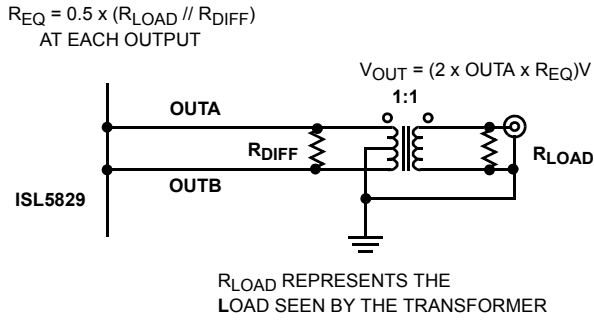
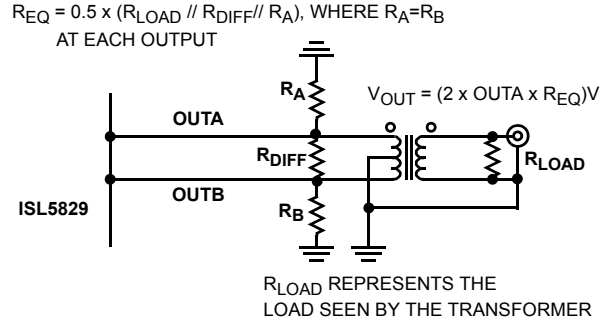

FIGURE 13. OUTPUT LOADING FOR DATASHEET MEASUREMENTS
FIGURE 14. ALTERNATIVE OUTPUT LOADING
**Typical Performance** (+3.3V Supply, Using Figure 13 with  $R_{DIFF} = 100\Omega$  and  $R_{LOAD} = 50\Omega$ )
**Typical Performance** (+3.3V Supply, Using Figure 13 with  $R_{DIFF} = 100\Omega$  and  $R_{LOAD} = 50\Omega$ ) (Continued)
IOUTA and IOUTB can be used in a differential-to-single-ended arrangement to achieve better harmonic rejection. With RDIFF= 50Ω and RLOAD=50Ω, the circuit in Figure 13 will provide a 500mV (-2.5dBm) signal at the output of the transformer if the full scale output current of the DAC is set to 20mA (used for the electrical specifications table). Values of RDIFF= 100Ω and RLOAD=50Ω were used for the typical performance curves to increase the output power and the dynamic range. The center tap in Figure 13 must be grounded.
In the circuit in Figure 14, the user is left with the option to ground or float the center tap. The DC voltage that will exist at either IOUTA or IOUTB if the center tap is floating is IOUTDC × (RA/RB) V because RDIFF is DC shorted by the transformer. If the center tap is grounded, the DC voltage is 0V.
Recommended values for the circuit in Figure 14 are RA=RB=50Ω, RDIFF=100Ω, assuming RLOAD=50Ω. The performance of Figure 13 and Figure 14 is basically the same, however leaving the center tap of Figure 14 floating allows the circuit to find a more balanced virtual ground, theoretically improving the even order harmonic rejection, but likely